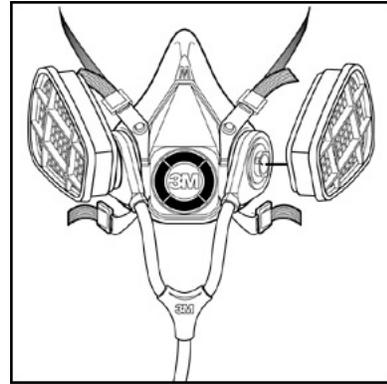

Fig. 18
3. Make a selection of cartridge and/or filter that meets your respiratory protection requirements, and attach to the outer bayonets on the 3M SA-1600 or SA-2600 combination dual airline breathing tubes. (Fig. 18)